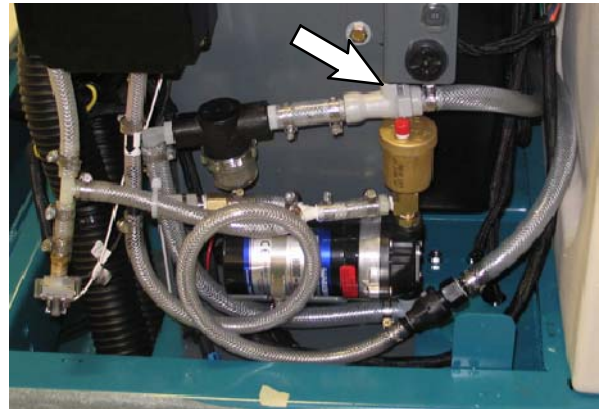

FIG. 12
23. Connect solution supply hose to the *ec-H2O* assembly inlet hose. Refer to Fig. 12.